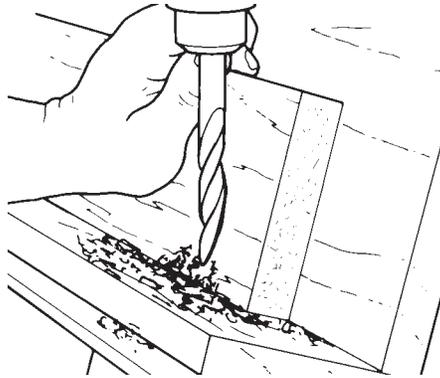

Figure D-27
1. Mount the rip fence on the downside of the table, then tilt the table. This will give the stock maximum support. If the angle is acute, place scrap blocks on the table and rip fence. See Figure D-27.